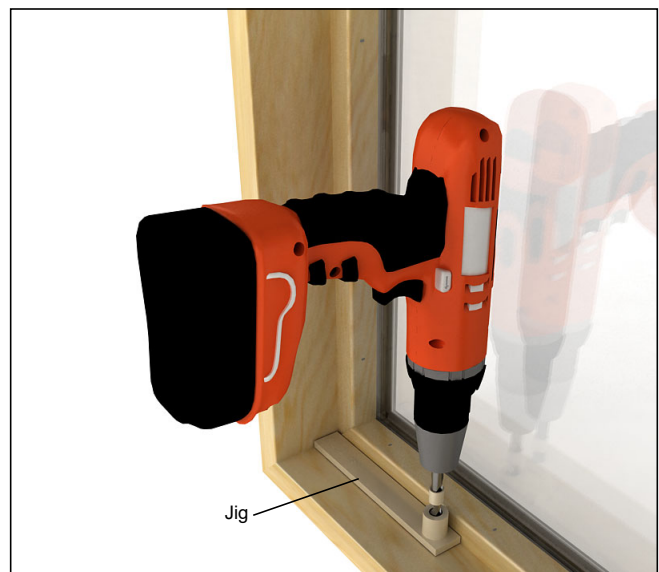

Figure 3
2. Using the drill jig included in the kit, drill a 3/8"(10) diameter hole by 3/8"(10) deep in the header and sill in each corner. See figure 3.